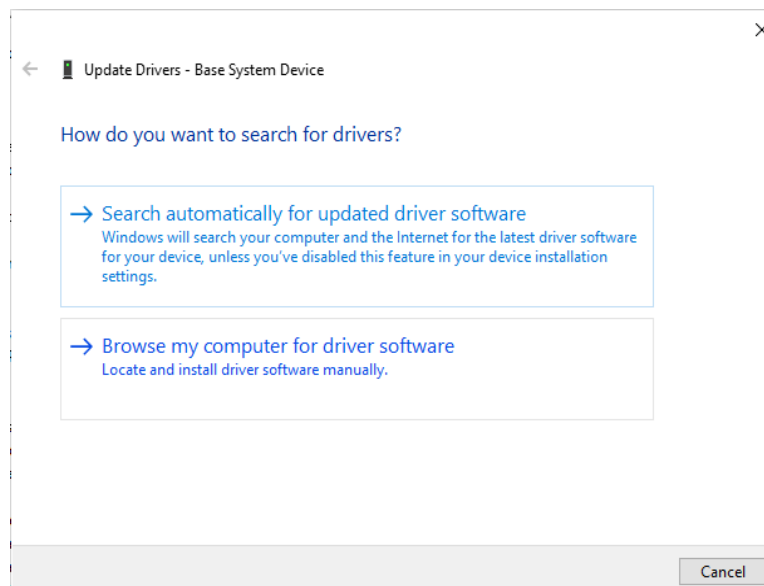

Figure 5.47. Update Driver Options
5. Select the **Browse my computer for driver software** option as shown in Figure 5.47.